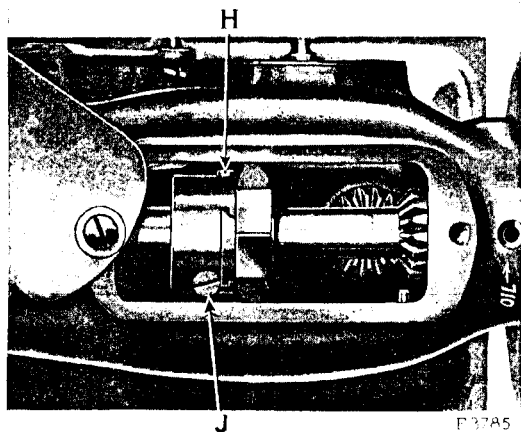

Fig. 18. Adjustment for Regulating Amount of Travel of Needle Bar
Swing back the cover plate at the top of the machine and loosen the screw (H, Fig. 18) in the needle bar driving eccentric on the arm shaft. To increase the throw or amount of travel of the needle bar for a longer stitch, turn the large screw (J, Fig. 18) on the needle bar driving eccentric over to the left or upwardly. To decrease the throw of the needle bar for a shorter stitch, turn the large screw (J) over to the right or downwardly. When the required throw of the needle bar is obtained, firmly tighten the screw (H).